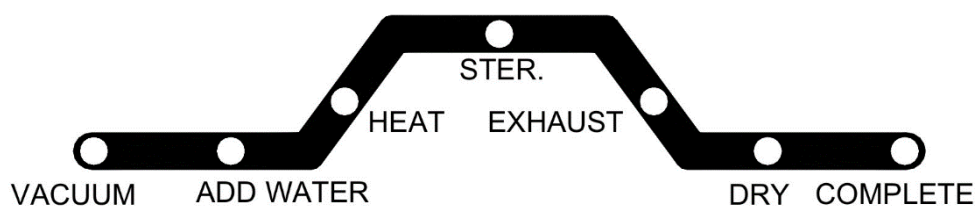

Figure 21
- D. Press the START Button  and the sterilizer will automatically run through the selected program. The current progress of the sterilization cycle is indicated by the illuminated LED on the Process Status Indicator. (Figure 21)